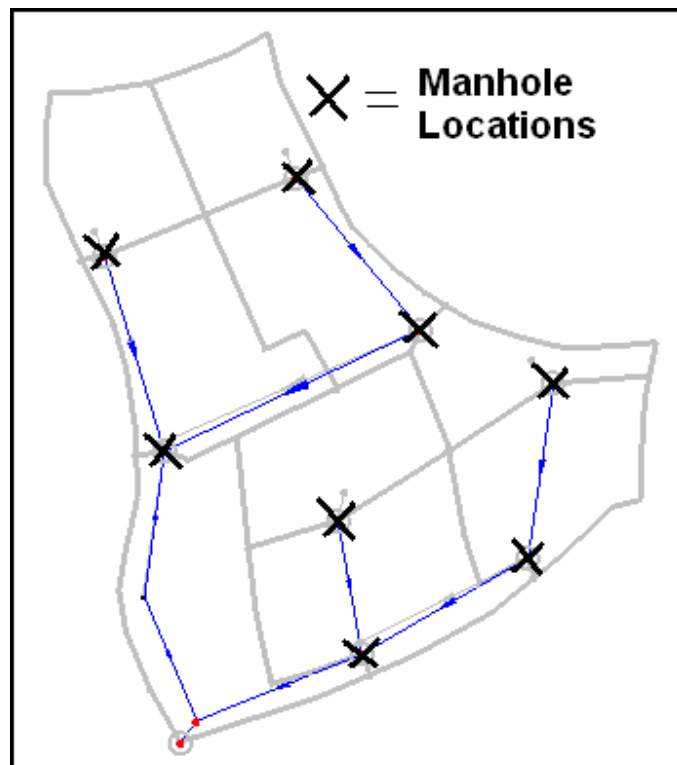

Figure 6-4: Manhole locations.
6. Multi-select the nodes indicated in Figure 6-4 as Manhole Locations by holding down the SHIFT key as you select each node